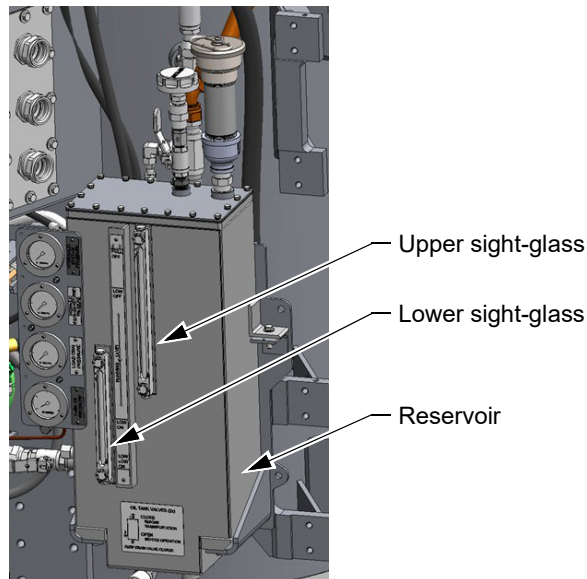

Figure 2: Sight-glasses and reservoir
1. Inspect the two high and low sight-glasses in the reservoir shown in Figure 2 to ensure the level of oil is not below the lower sight glass level limit.